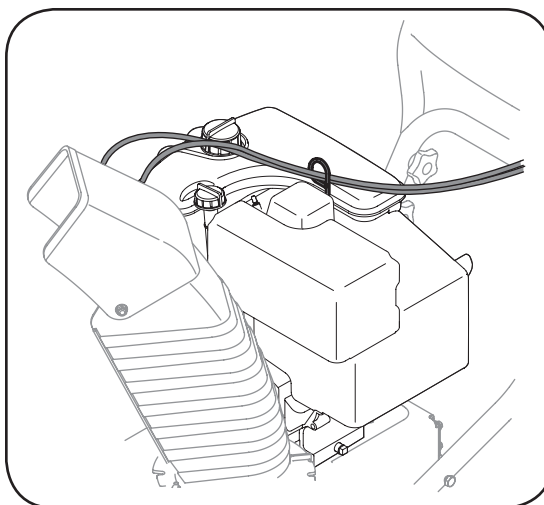

Figure 3-6
7. Check that all cables are properly routed through the cable guide on top of engine shroud. See Figure 3-6.